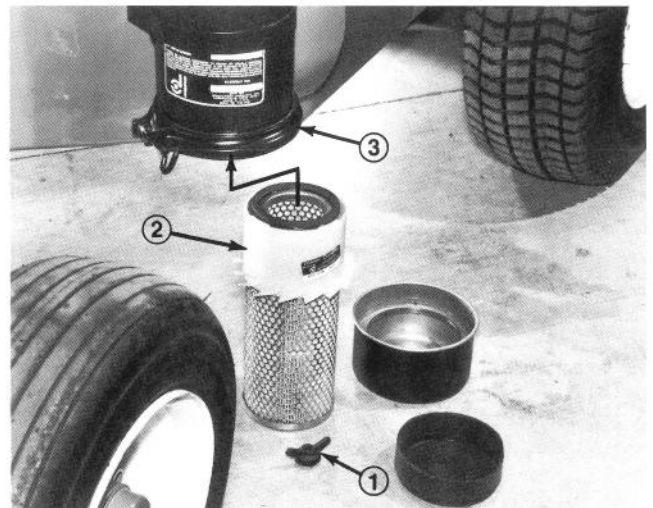

Figure 42
2. Remove wing nut w/gasket and slide filter element out of air cleaner body (Fig. 42).